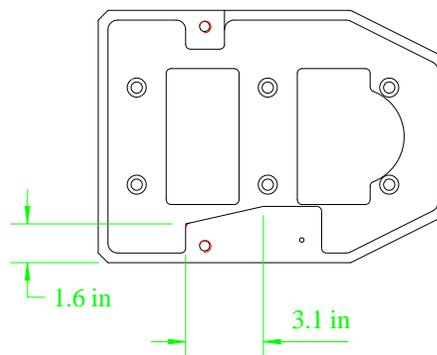

Figure 5 – Motor Base Dimension
Figure 5 shows the dimensions needed to trim motor base. The motor base is part #20 in the upper exploded view shown on page 10-2 of the manual1. There are 8 steps to the process.
4. Mark out the required cut using the dimensions of Figure 5. This is not a precision cut, layout dye is not necessary.